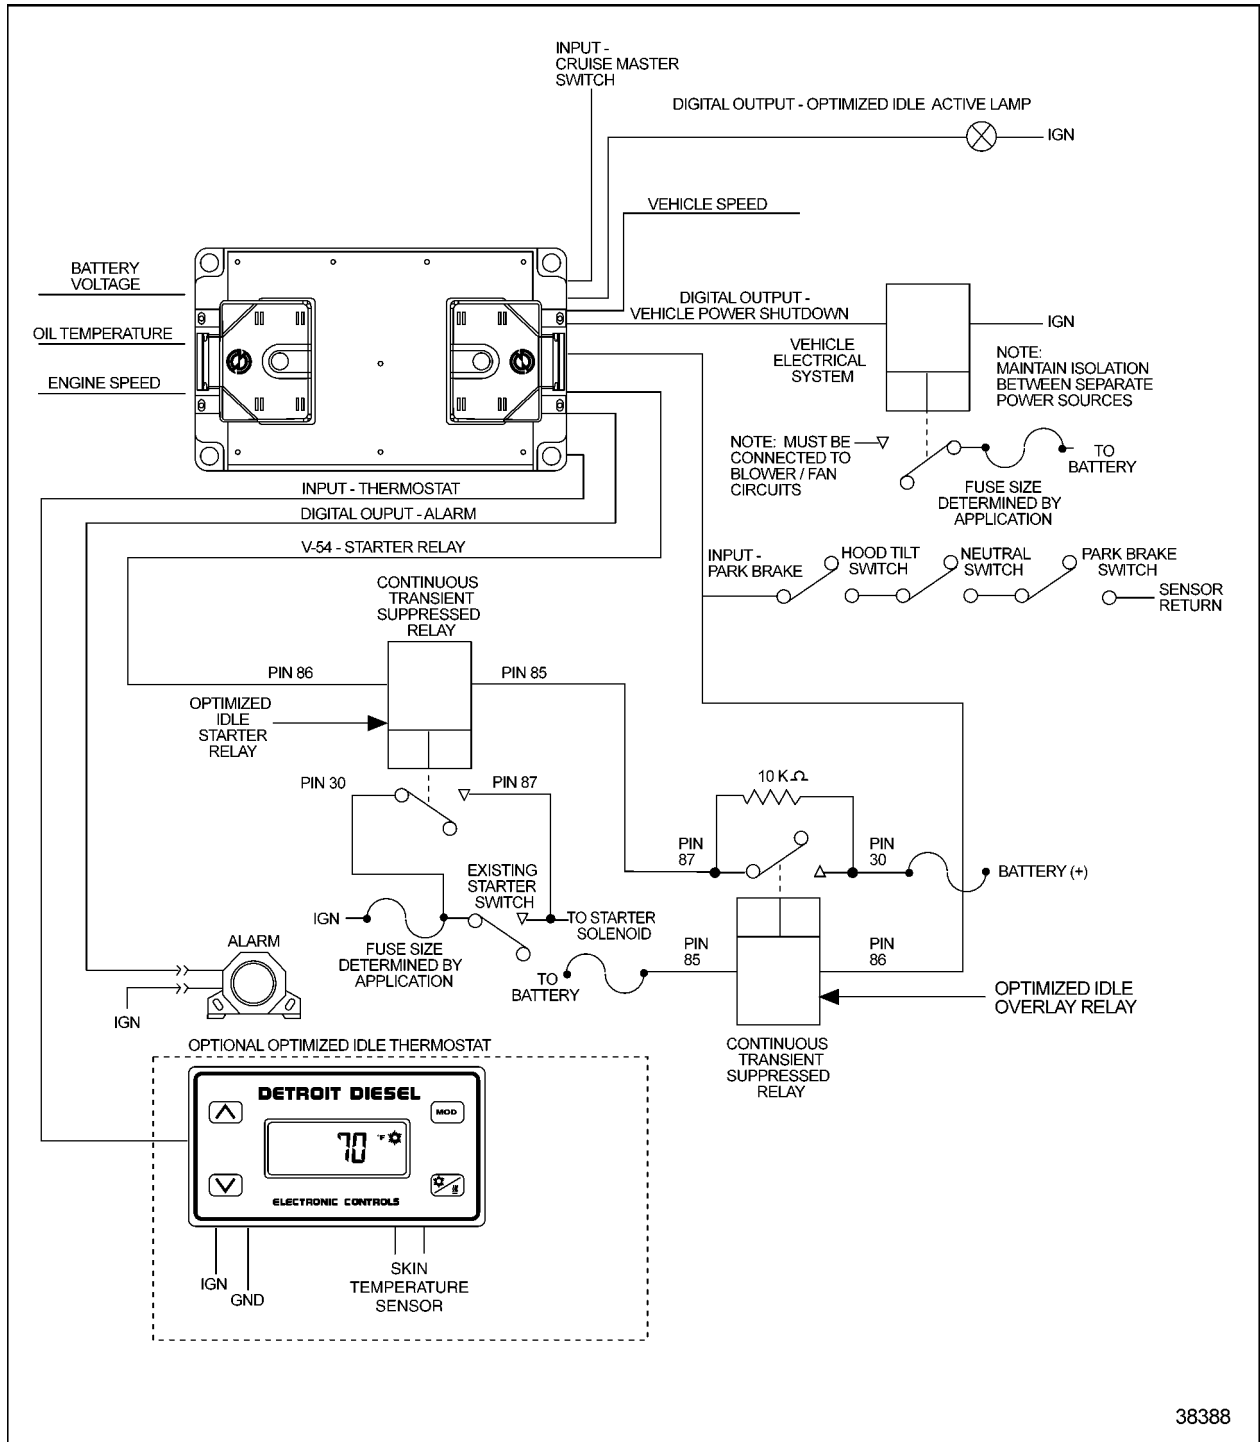

Figure 19-10 Optimized Idle Schematic
2. Measure the resistance across the hood switch contacts with the hood closed. See Figure 19-10.